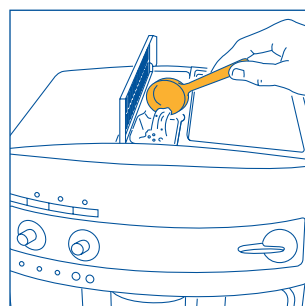

Fig. 19
2. Lift the lid in the centre, insert the pre-ground coffee measure in the funnel (see fig. 19) and proceed as described in paragraph 5. Note:: You can make just one coffee at a time by pressing the button.